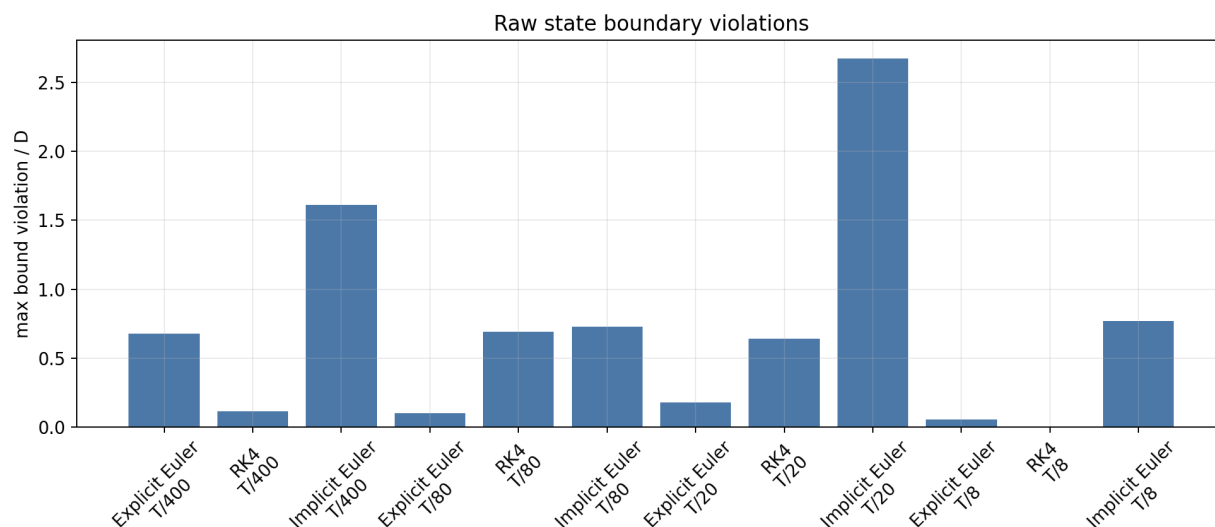

Figure 2: Maximum raw state boundary violation normalized by device thickness.
Figure 2 compresses the overshoot information into a bar chart. The vertical axis is the maximum violation normalized by D . A value of zero means the raw trajectory stayed within the physical interval for that method and step size. However, this should be interpreted together with the state trajectory plot. A small violation can mean the method behaved well, but it can also mean the method was too coarse to see the movement.
6.7 Presentation explanation for Figure 2